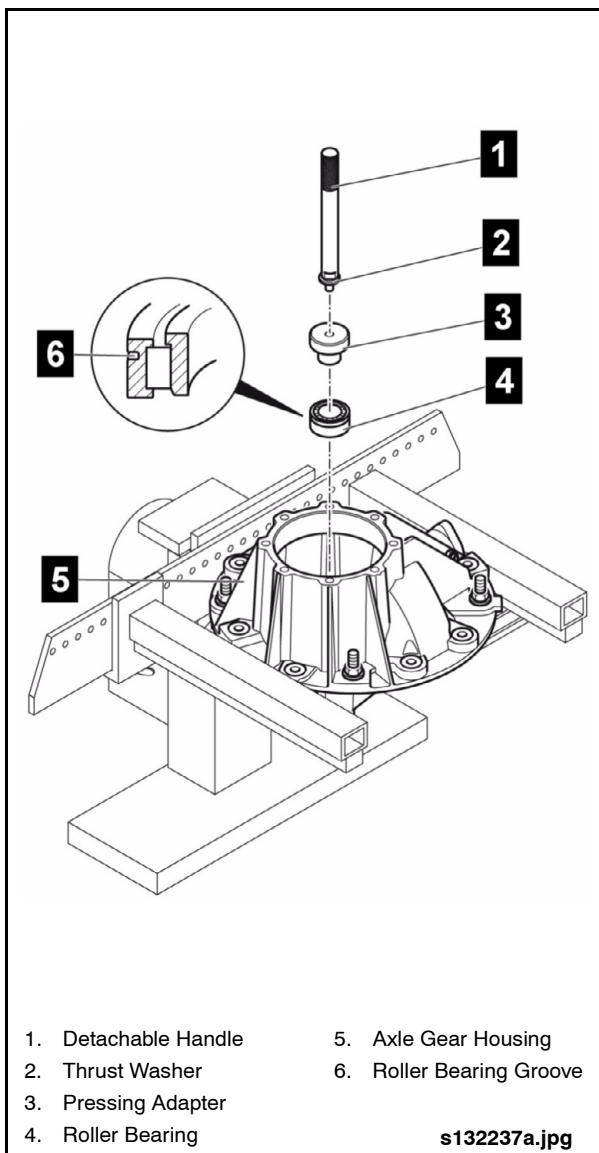

Fig. 2-80: Installing Roller Bearing
2. Press roller bearing into axle gear housing until stop is reached. Ensure roller bearing groove is facing up. See "Fig. 2-80: Installing Roller Bearing" on page 65.